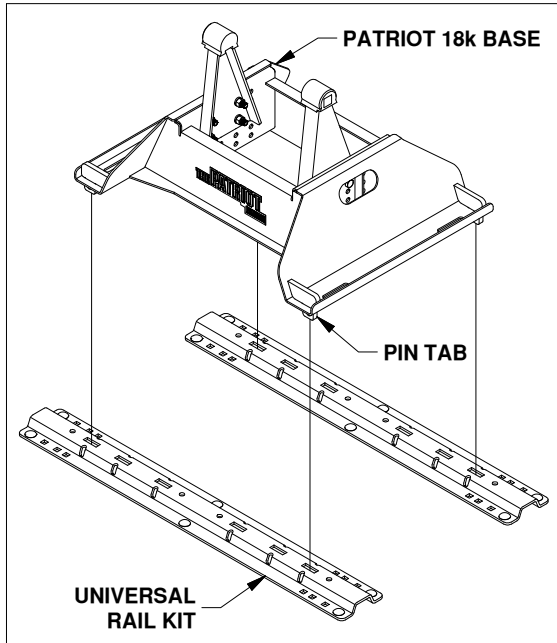

Figure B1: Rail attachment.
1. The Patriot 18k base will mount to a rail kit in the truck bed. Remove any debris and/or obstructions from the bed. Place the Patriot 18k base over the rail attachment points and carefully lower it until the pin tabs pass through the attachment points and the base rests flat against the top of the rails, see Figure B1.